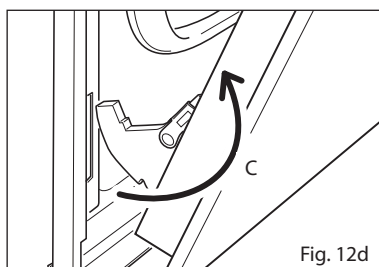

Fig. 12d
- Withdraw the hinge hooks from their location following arrow **C** (fig. 12d).